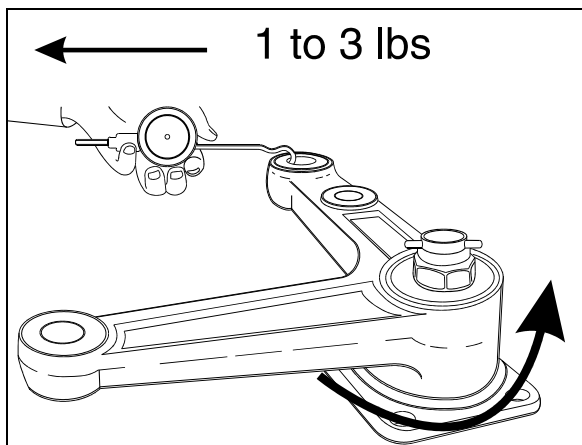

FIGURE 15: BELL CRANK 16045
7. Check for loose bearings by applying an up and down load on bell crank or idler lever (Fig. 15). The lever is not supposed to move in the vertical axis direction.